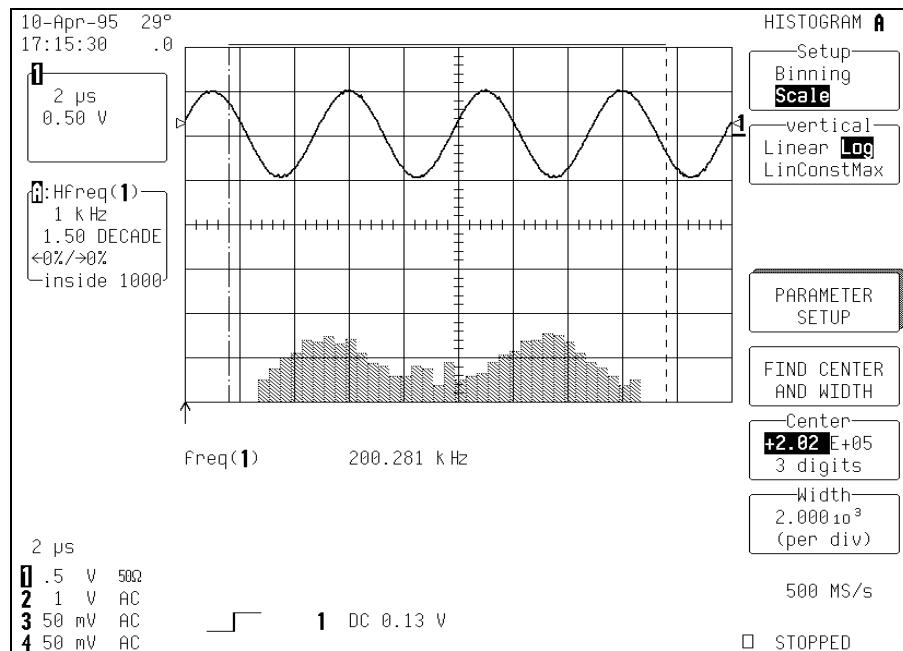

Figure 2.13
2. “**Log**” sets the vertical scale as logarithmic (*Fig. 2.13*). Because a value of ‘0’ cannot be specified logarithmically, no baseline is provided.